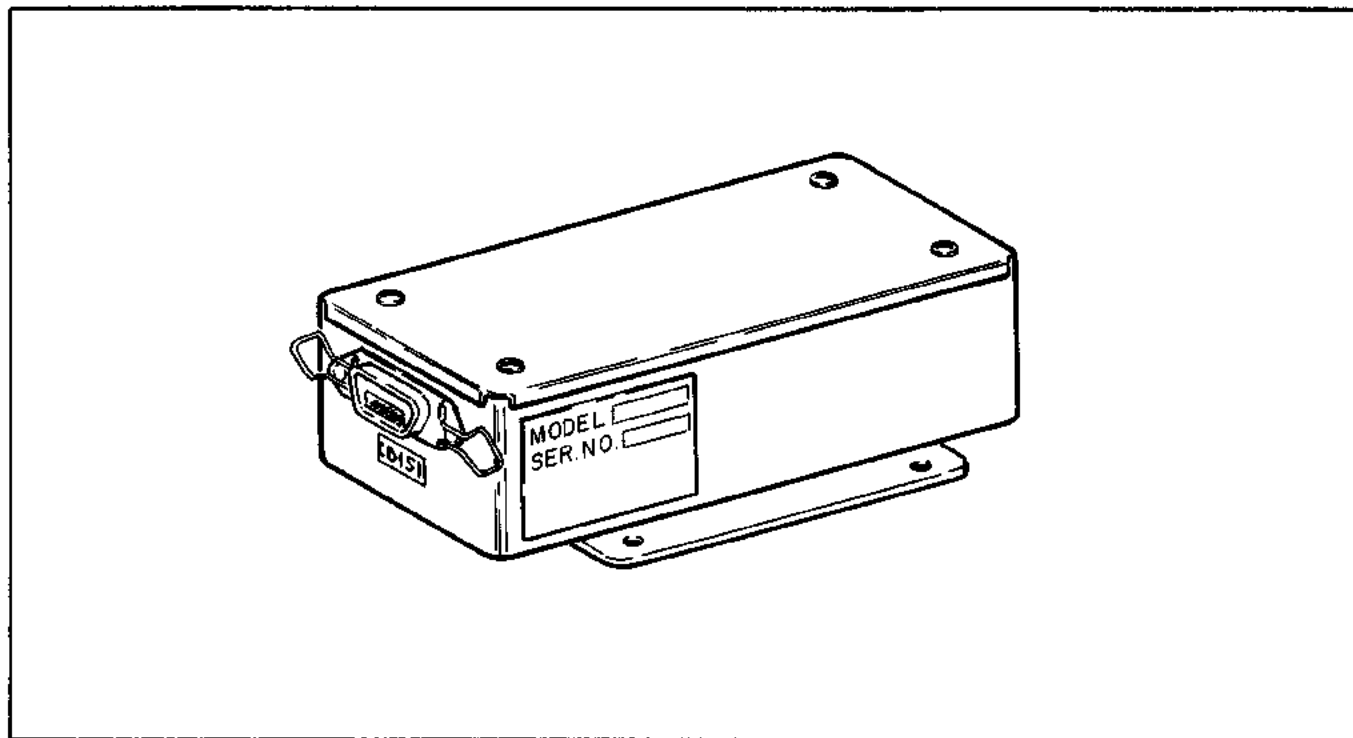

Figure 3-36. NAV Flag Adapter Installation
**3-164. INSTALLATION OF NAV FLAG ADAPTER. (PA-23-250 Six Place, S/N 27-7554001, 7554074 to 7754127; PA-31, S/N 31-7512023 to 7712064; PA-31-350, S/N 31-7552054 to 7752100, 31-7752102 to 7752113 and PA-31P, S/N 31P-7630014 to 7730012) (Refer to Figure 3-36.)**
**3-166. INSTALLATION OF NAV FLAG ADAPTER.** (PA-32-260, S/N 32-7600001 to 7700017; PA-32-300, S/N 32-7640001 to 7740075; PA-32R-300, S/N 32R-7680001 to 7780350 and PA-34-200T, S/N 34-7670001 to 7770261) (Refer to Figure 3-36.)